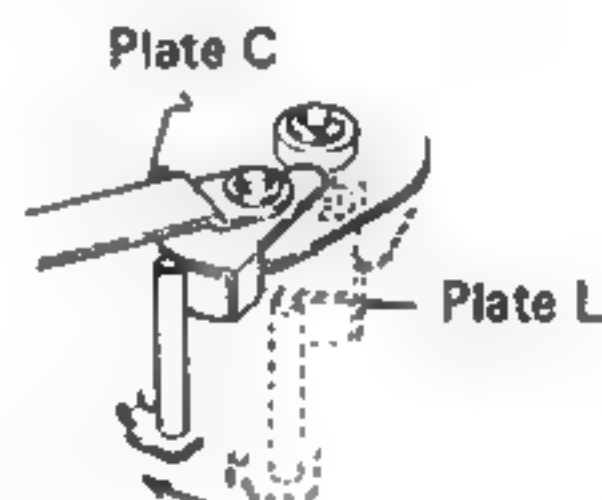

Fig. 12
8. Plate C rotation continues and tonearm is returned to arm rest by plate L above plate C (Fig. 12).